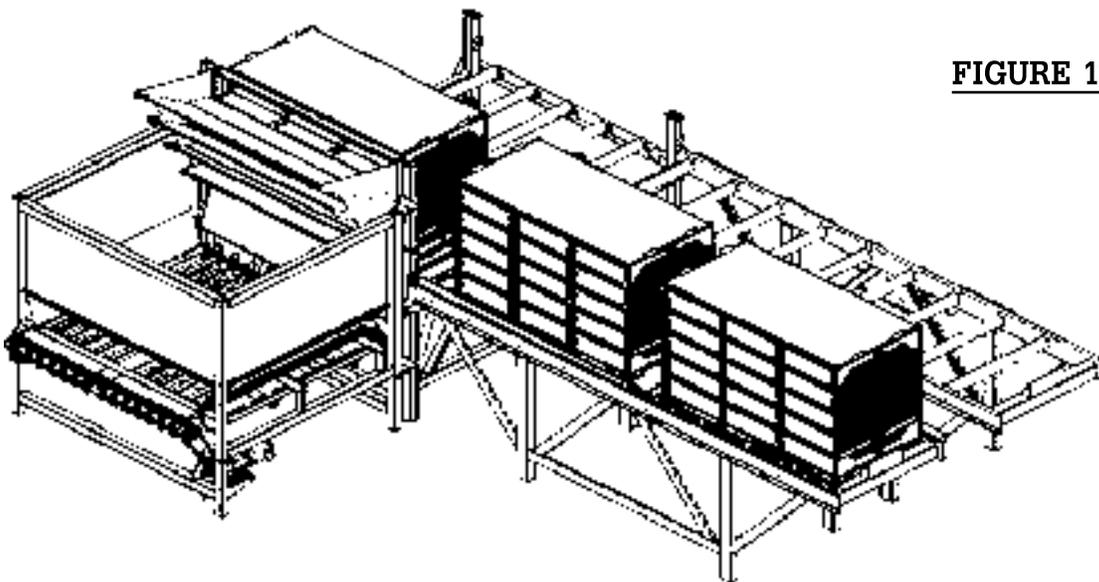

FIGURE 12
12. Wait about 10 to 15 seconds and push the third (DUMPER TILT) hydraulic lever and hold it until the cradle cylinders are fully retracted. The cylinders are fully retracted when the cradle stops tilting downward. Then release the lever. (See Figure 12)